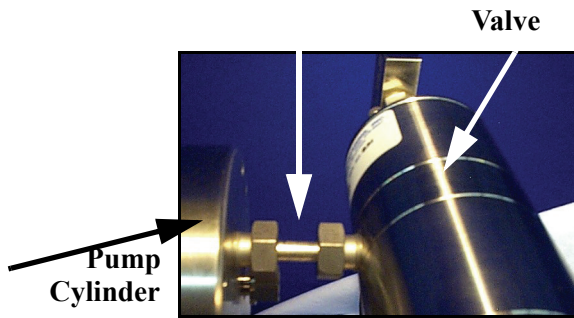

Figure 2-19
8. Screw the cylinder barrel down until it is seated against the pump housing. When properly seated, the fluid inlet port (to which the valves will be attached) should be the top hole when you look at the end of the cylinder barrel. (See Figure 2-19 on the following page.)
1. Refer to the Figure 2-19 which shows the three holes at the front of the cylinder barrel (for Q6000-5K and Q6000-10K models). The top hole is the fluid inlet/outlet port of the pump cylinder, where the valve tubing should be installed.